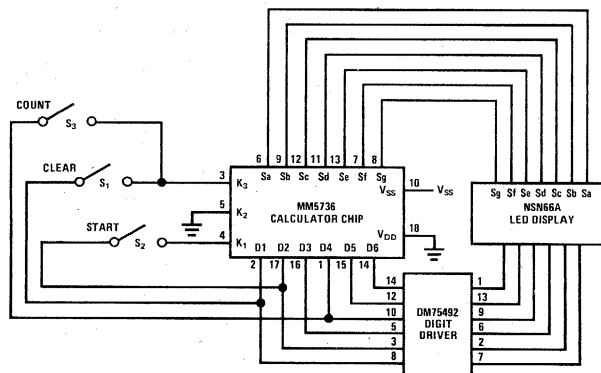

FIGURE 2. Simplest Counter
*Figure 2* shows a 6 decade counter that drives a display and requires a minimum of parts. This circuit's maximum counting rate will typically be about 60 Hz. Some chips may run as slow as about 40 Hz while some may run as fast as 150 Hz due to inherent variations of the on-chip oscillator from calculator to calculator. This counter is useful in applications where speed is not
an important factor and where the counter is reset manually. The resetting of this circuit consists of two operations, clearing the calculator and entering a 1 into it again (only one CLEAR operation is needed following an arithmetic operation). The circuit in *Figure 2* leaves these two operations to the operator; he must first clear the counter by depressing  $S_1$  to the CLEAR position and then he must enter a 1 into the machine by depressing  $S_2$  to the START position. This allows the operator to control when the counting starts without gating the "count" input.
In case the impact of this escaped you, let's repeat it: the circuit in *Figure 2* demonstrates a 6 decade counter and everything that is needed to drive a 6 digit LED display, yet this circuit requires only two integrated circuits!